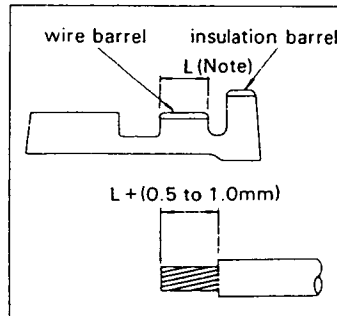
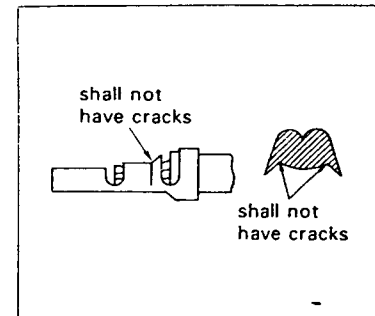

Fig. 4
Fig. 5
- (5) Now insert a wire, which is stripped per Fig. 4 into the barrels of the terminal.
- (6) Squeeze handles completely until the ratchet releases, holding the wire by hand in the proper position.
- (7) Open handles, remove the crimped terminal and inspect it. (See Fig. 5. )